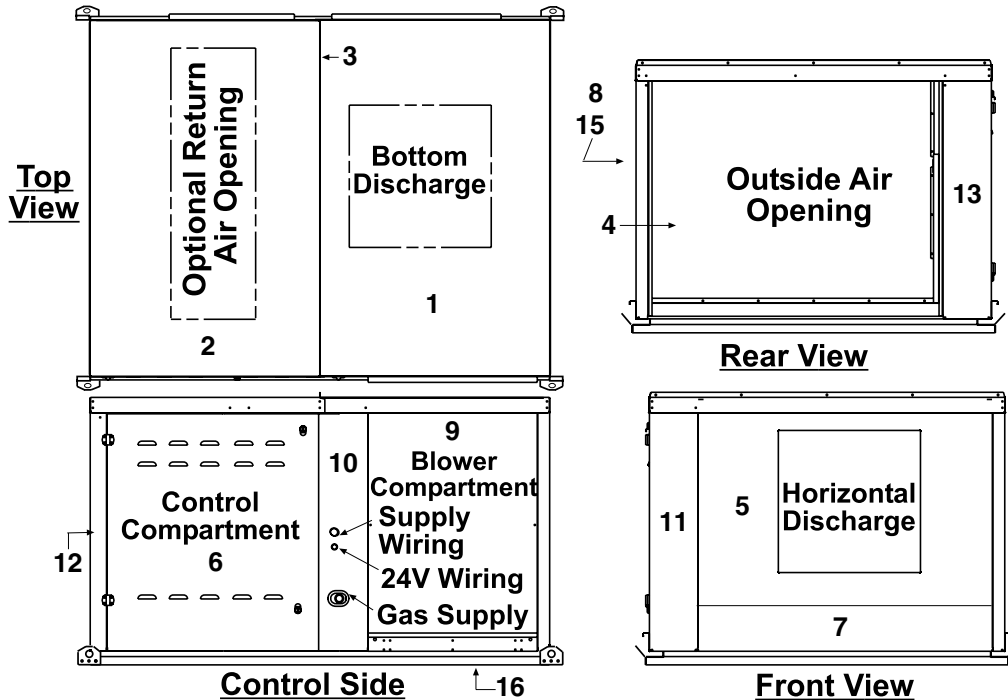

Figure 19. Cabinet Components—Model RDF-1, Series 3 (Refer to Table 37)
- Cabinet components for model RDF-1 series 3 units are listed in Table 37 and shown in Figure 19.